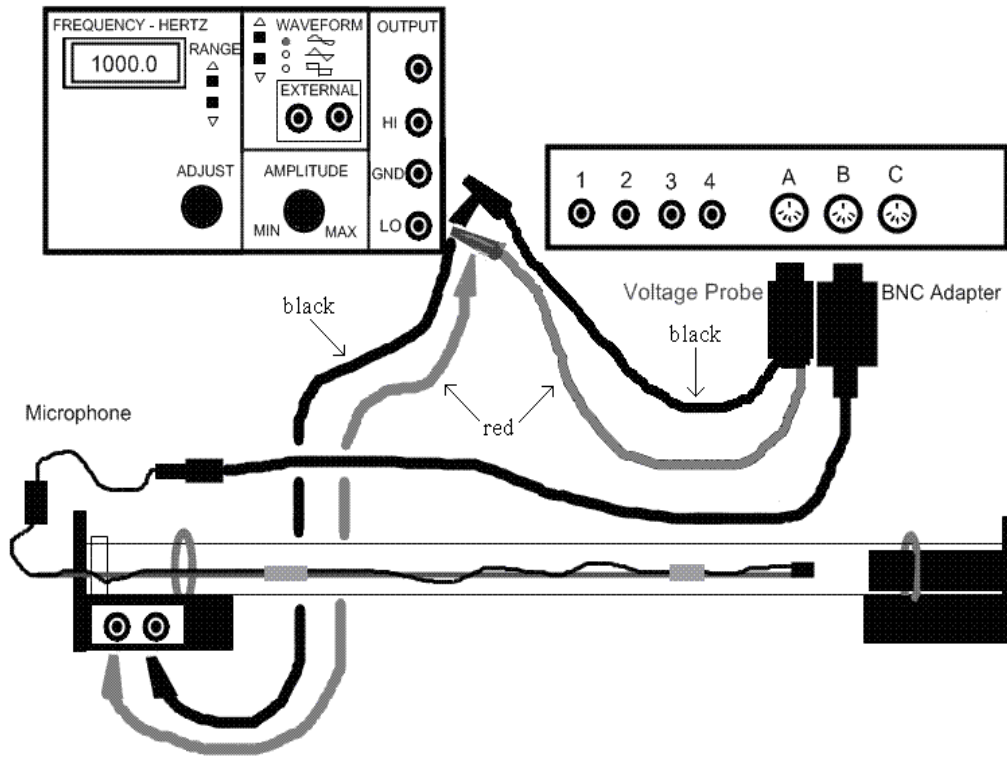

Figure 9. Setup for sound tube, oscillator, and microphone
1. The experiment may or may not be set-up when you enter the laboratory, with proper cable connections between the apparatus, oscilloscope and function generator. We will check this in steps 4-6 below. (See Fig. 9.) NOTE: The microphone is a pressure transducer.